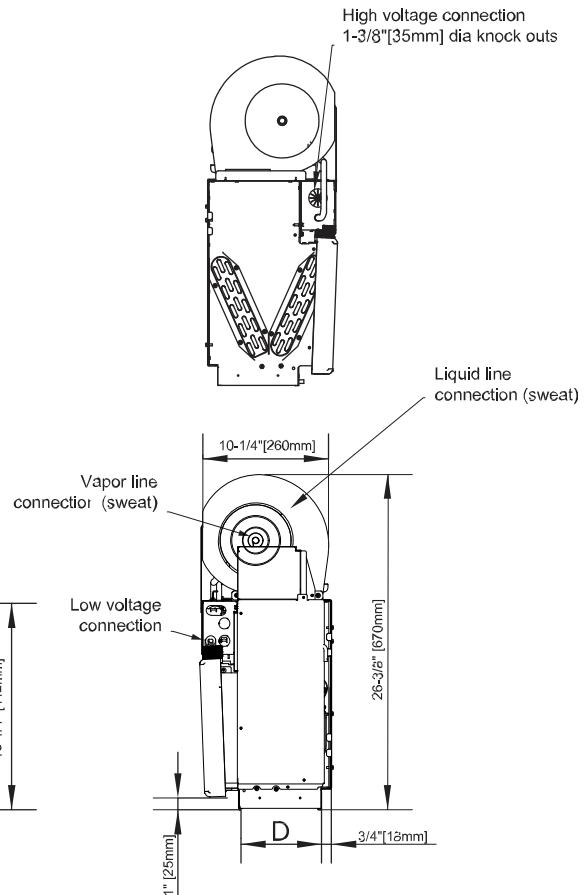
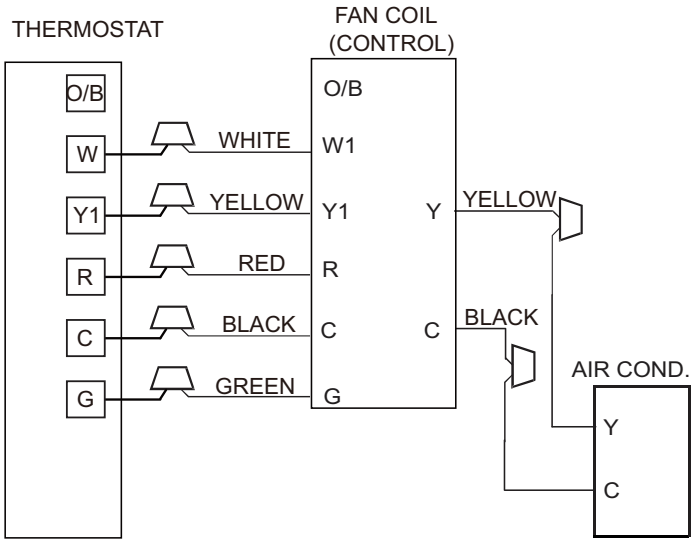
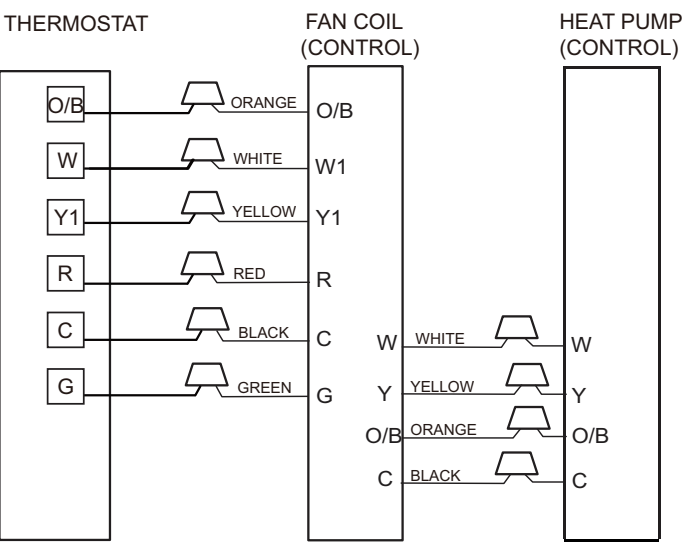

Fig. 2 – Dimensional Drawing
Fig. 4 – Wiring Layout Air Conditioning Unit (Cooling and 1-Stage Heat)
Fig. 5 – Wiring Layout Heat Pump Unit (Cooling and 2-Stage Heat)
All return air must be filtered. Fan coil can be installed with a return-air duct, as long as airflow constraints published in the product data are met, or in a free return application. When installed as a backside ducted return, an insulated cover for the bottom casing opening must be field fabricated and installed. Refer to Fig. 2, dimension C for width of opening for ducted return. When installed as a free air return, a louvered panel must be used if the area the fan coil is installed is not sealed (see Product Data for louvered panel kit). Air filters should be located at the return air openings to the fan coil location. Refer to the Product Data sheet for a list of louvered access panel kits.
See Fig. 4, and Fig. 5 for field low-voltage wiring See Fig. 2 for location of the electrical inlets. For maximum ampacity and over-current protection, see unit rating plate or product data sheet.
5. Connect low-voltage leads to thermostat and outdoor unit. See Fig. 4, and Fig. 5 as well as the outdoor unit wiring label.
The A2L Detection Sensor is attached to a wiring harness that connects the sensor to the control board. Refer to Fig. 4 and Fig. 5 for low voltage field connections between the control board and the thermostat. All control wires are labeled with the wire function and landing point.